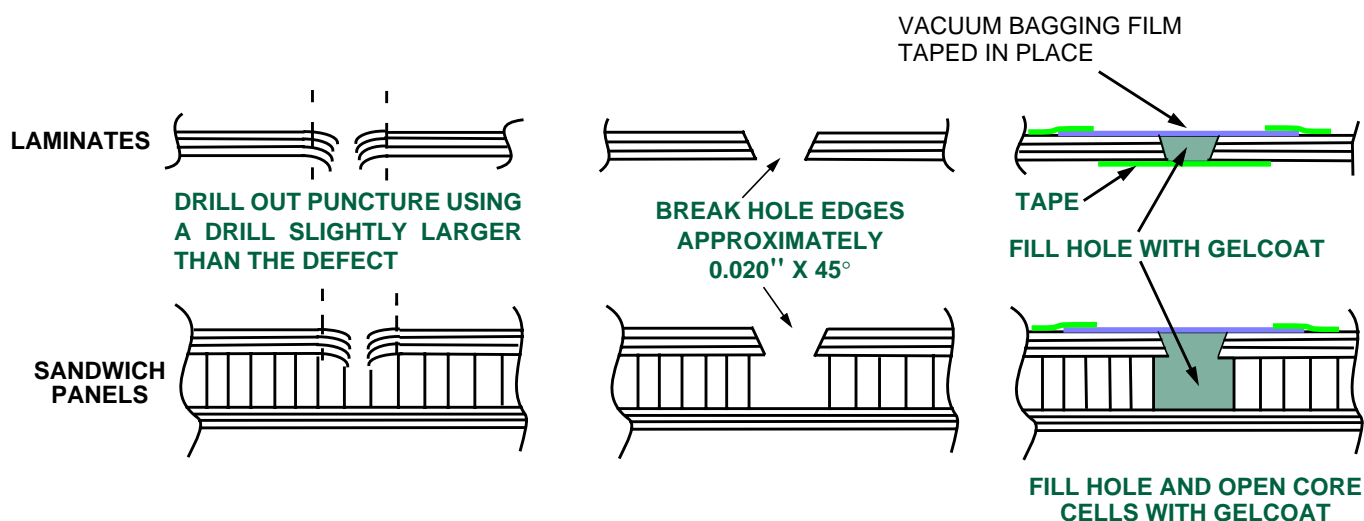

FIGURE 3 - EPOXY RESIN-GELCOAT REPAIR OF SMALL HOLES, PUNCTURES AND MISPLACED FASTENER HOLES
5.2.5.1 Repair small holes, punctures and misplaced fastener holes as follows (see Figure 3):
- Step 5. Cover the inner end of the hole with tape (see Figure 3).